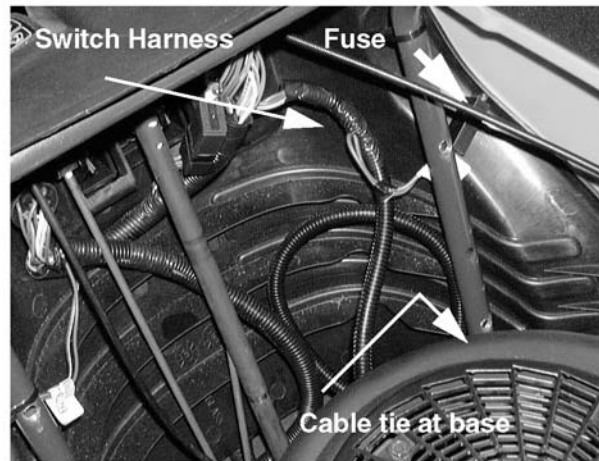

Figure 8-49.
13. Route the wire harness down along the left dash support tube through the frame near the running board. See Figure 8-49.